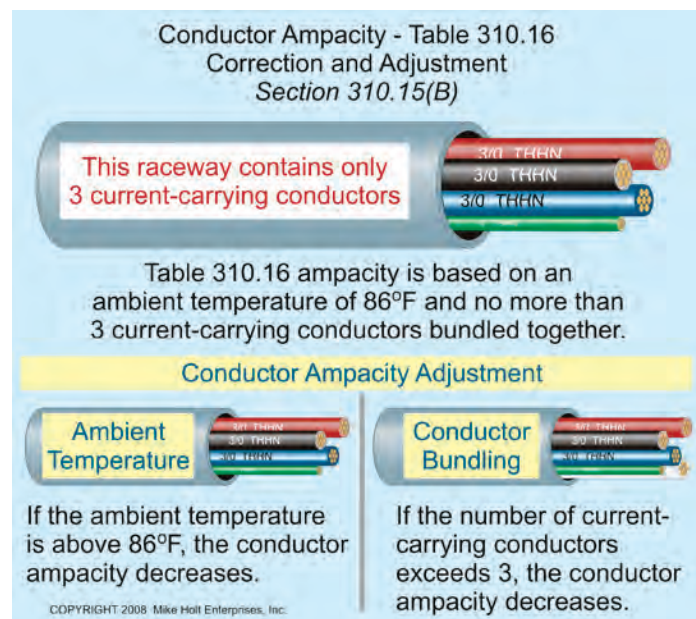

Figure 310–8
(B) Ampacity Table. The allowable conductor ampacities listed in Table 310.16 are based on conditions where the ambient temperature isn't over 86°F, and no more than three current-carrying conductors are bundled together. **Figure 310–8**